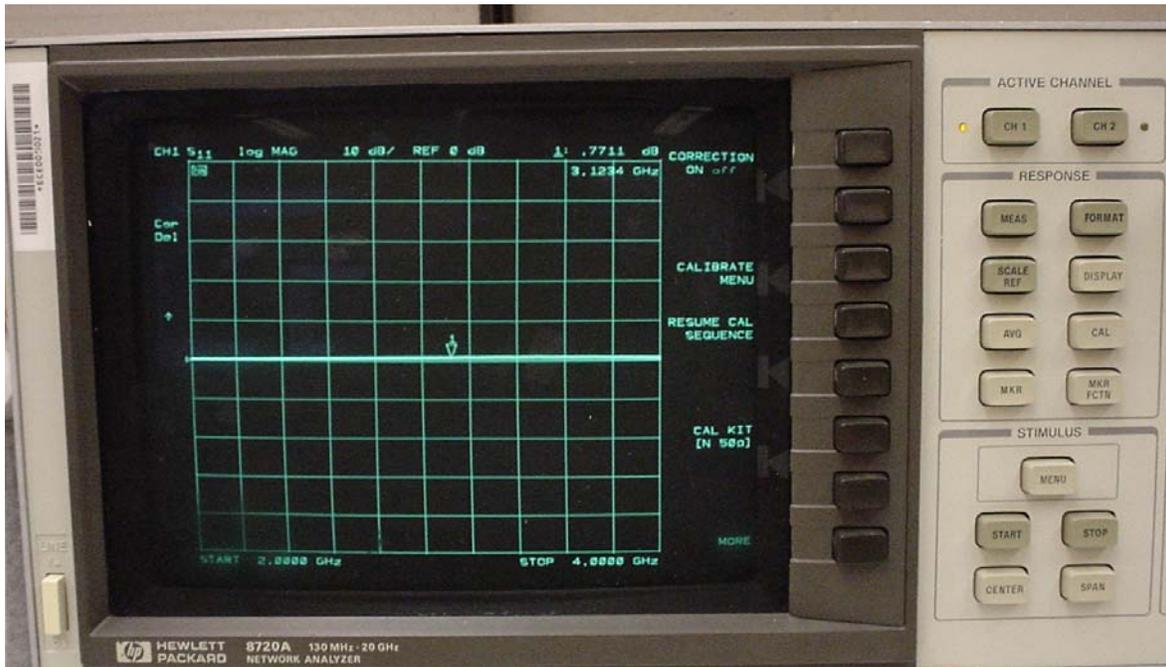
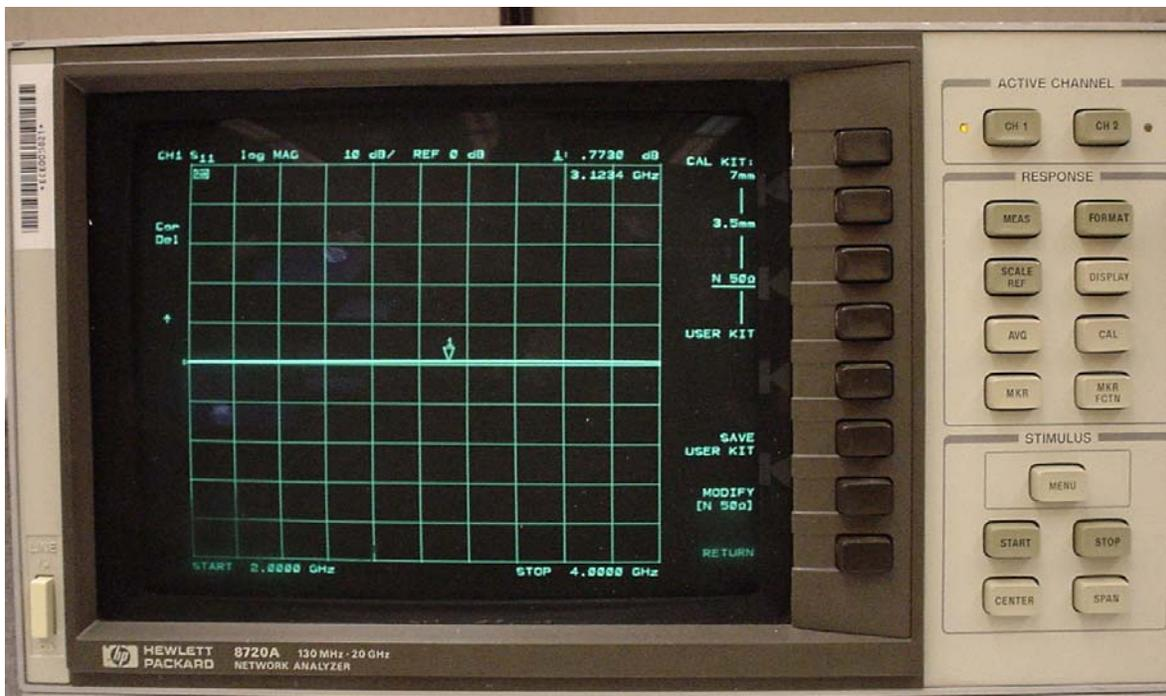
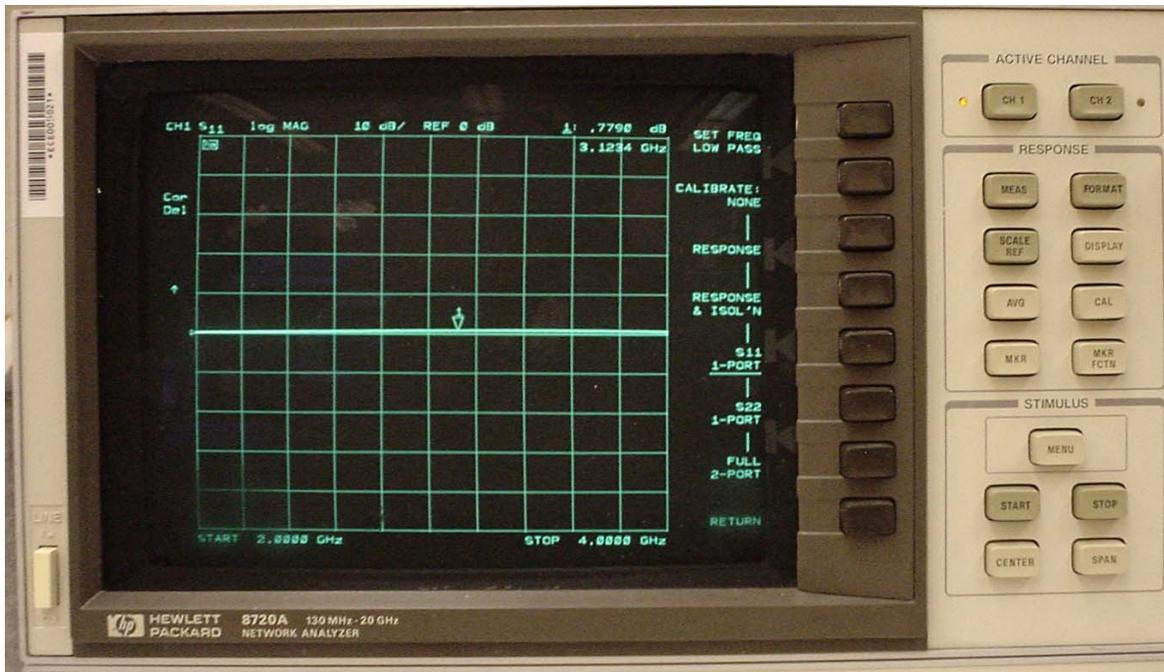

Fig. 5.12 The CAL menu.
Fig. 5.13 The CAL KIT menu.
Fig. 5.14 The CALIBRATE menu.
A three-standard or “ S_{11} ” calibration is carried out as follows. You will need the N-type broadband matched load, short-circuit load and open-circuit load from the calibration kit. Press the CAL key in the RESPONSE panel to the right of the CRT screen to obtain the calibration menu shown in Fig. 5.12. Press the CAL KIT soft key to select a calibration kit from the menu shown in Fig. 5.13. Select the “N 50 Ω ” soft key to choose the calibration kit with N-type connectors, then press the RETURN soft key at the bottom to exit from the CAL KIT menu and return to the CAL
menu of Fig. 5.12. Then press the CALIBRATE MENU soft key in the CAL menu in Fig. 5.12 to get the CALIBRATE menu of Fig. 5.14.
In the CALIBRATE menu of Fig. 5.14, select the “S11 1-PORT” soft key to get the menu of Fig. 5.15. This menu invites you to mount the three standards on the test port, one by one, and record the response of each. Mount the open-circuit standard on the test port. When you mount the standard loads, hold the standard in your left hand but *do not turn it*. Turn the nut on the mating connector until it is “finger tight”. *Never turn the standard*. Then press the OPENS soft key in the menu of Fig. 5.15. This obtains a menu with two choices: OPEN(M) and OPEN(F). The “sex” refers to the connector on the measurement port, not to the calibration standard. Select OPEN(M) since the connector on the measurement port is male. Then press the DONE OPENS soft key to return to S11 1-PORT calibration menu. The HP8720 records the response and underlines OPENS to remind you that you have done this test.